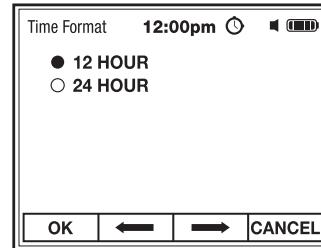

Fig. 28
- Use the **F2** ⇅ and **F3** ⇆ soft keys to select a 12 hour or 24 hour clock (Fig. 28).